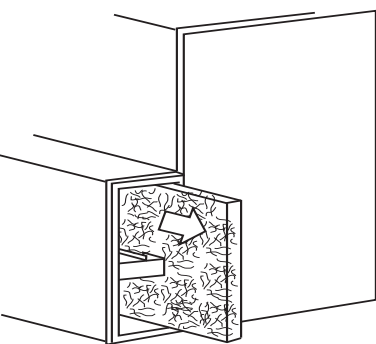
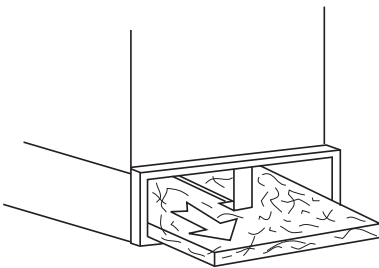

Fig. 22 – Removal of Filter from Side Blower Cabinet
Fig. 23 – Removal of Filter from Bottom Blower Cabinet
- b. Slide air filter out of furnace. Keep dirty side up (if dirty) to avoid spilling dirt (see Fig. 22 and Fig. 23).